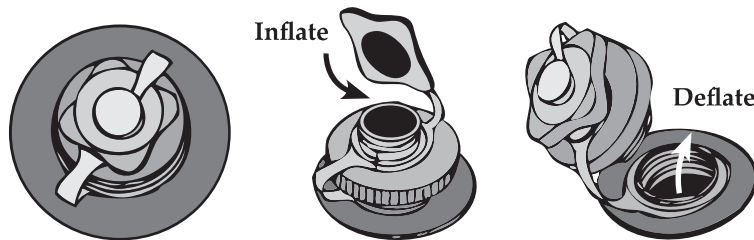

Figure 1. Inflate/Deflate Boston Valve
The iEscape 90 kayak uses standard Boston valves. This common valve has great function and durability and is compatible with most standard pumps. The following illustrations in *Figure 1* show how to operate your valves.
1. Unscrew the valve bodies from chambers 1, 2, and 3 to allow the air to rush out. (*See Figure 1*)